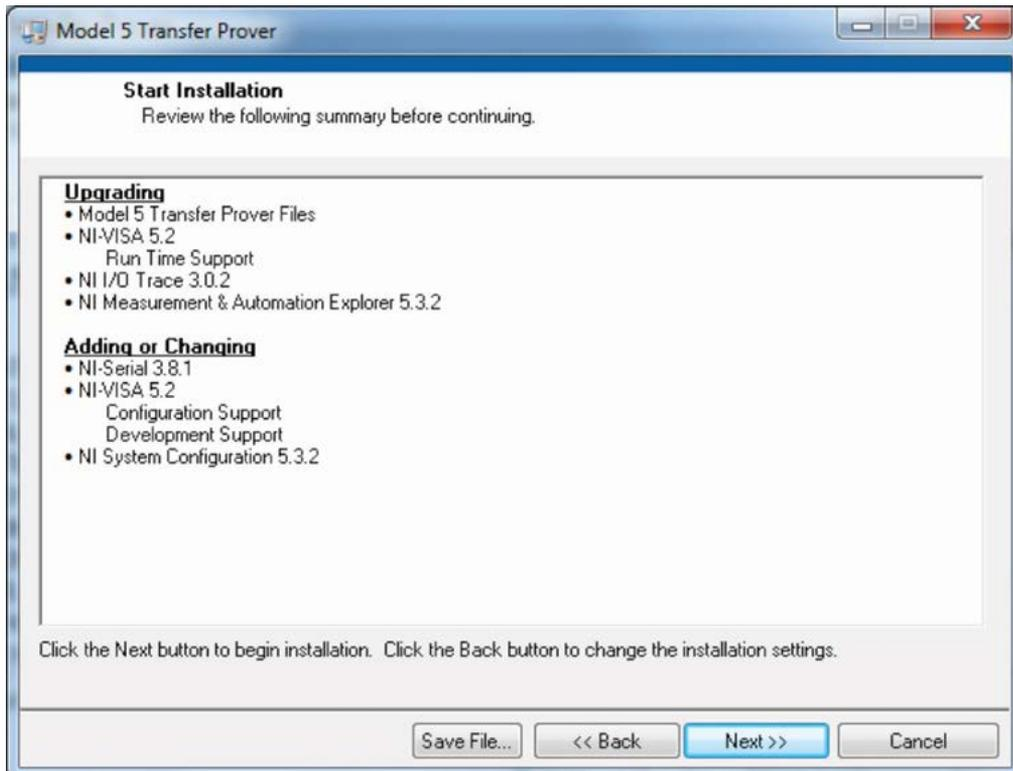

Figure 36: Installation Component Listing
6. Begin the Model 5 Prover software installation process by selecting "Next" as shown in **Figure 36**.